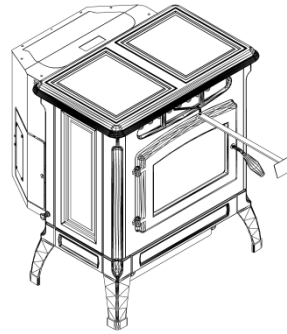

FIGURE 15
- With the door closed clean heat exchanger tubes. (See "**CLEANING**" and Figure 15).
- a. **Heat Exchange Tubes** – Your Breckwell stove is designed with a built-in heat exchange tube cleaner. This should be used every two or three days to remove accumulated ash on the tubes, which reduces heat transfer on the P4000. Insert the handle end (with hole) of the cleaning tool onto the cleaning rod (refer to figure 15). The cleaner rod is located in the grill above the stove door. Move the cleaner rod back and forth several times to clean the heat exchanger tubes. Be sure to leave tube cleaner at the rear of the stove.